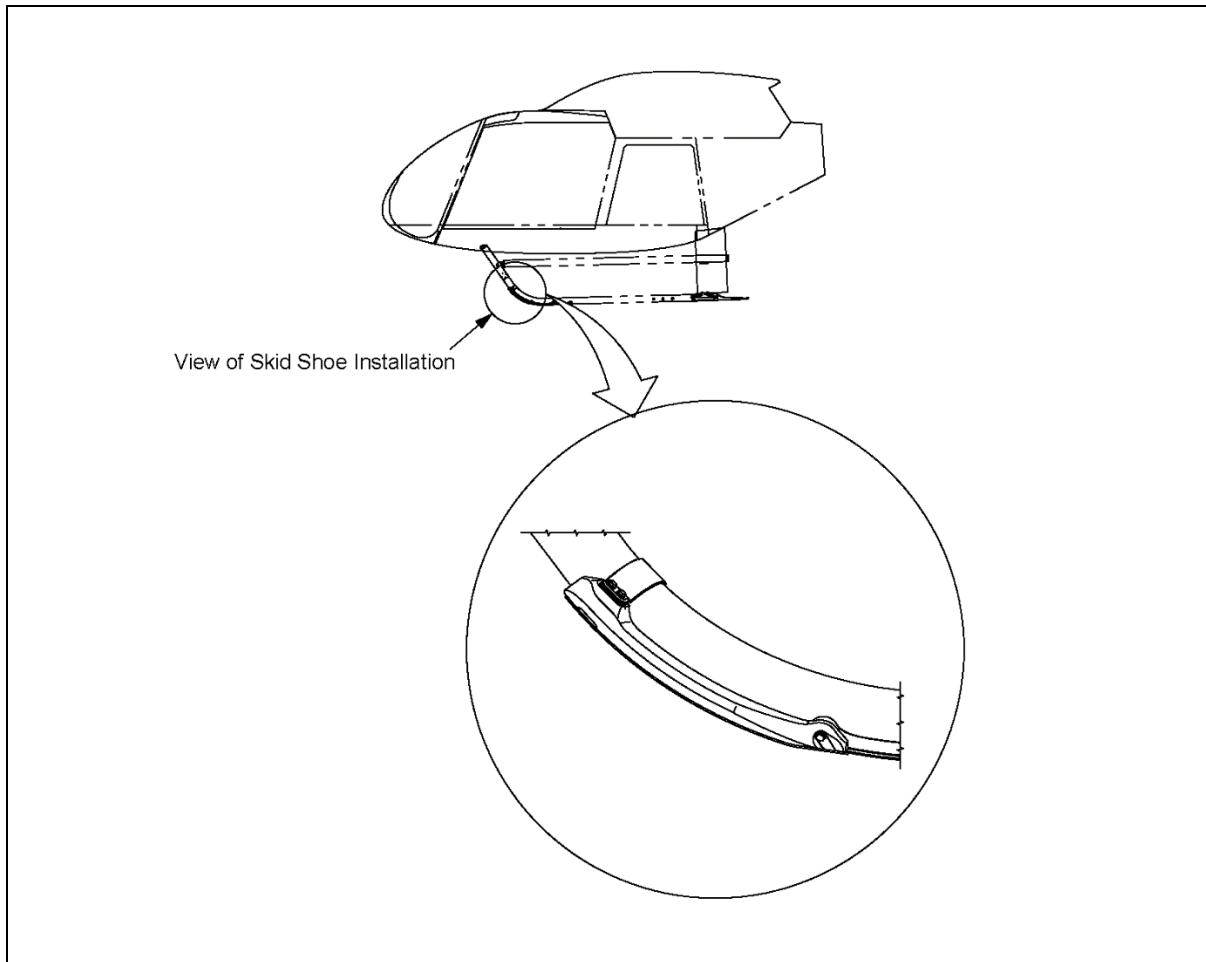

Figure 1 General Layout, Installation of Skid Shoes
- A. The Installation of Skid Shoes facilitates run-on landings in soft ground by limiting the sinking behaviour of the skids. The skid shoe assembly consists of a plastic shoe machined from Tivar plastic and a titanium sheet metal wear plate protecting the bottom of the shoe. The skid shoe is installed onto the skid tube overlapping the existing forward wear plate picking up on existing hardware. A clamp with a rubber pad secures the forward end of the skid shoe. With this installation there is no modification required to the existing landing gear. Refer to Figure 1.